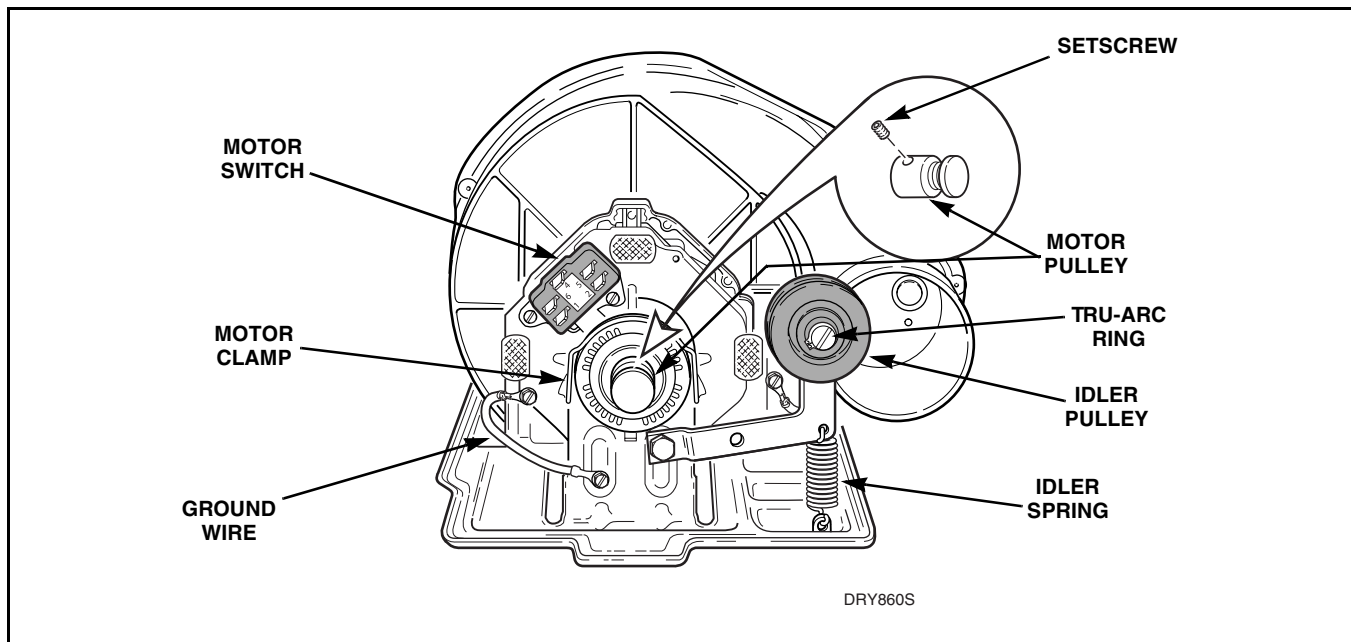

Figure 26
- (1) Refer to *Figure 26* for motor and idler pulley removal.
- (1) Remove screw holding ground wire (if present) to exhaust fan cover. Refer to *Figure 26*.
- (1) Disconnect wires from motor switch. Refer to *Figure 26*.
- (2) Disconnect ground wire from motor. Refer to *Figure 26*.
- (3) Pry two motor clamps off using a screwdriver. Refer to *Figure 26*. Then lift motor out of mounting bracket.
NOTE: When replacing motor, the motor switch location should be at 10 o'clock position with the positioning tab on the motor engaged with the notch in the motor bracket. Refer to *Figure 26*. Refer to appropriate wiring diagram when rewiring motor switch leads.